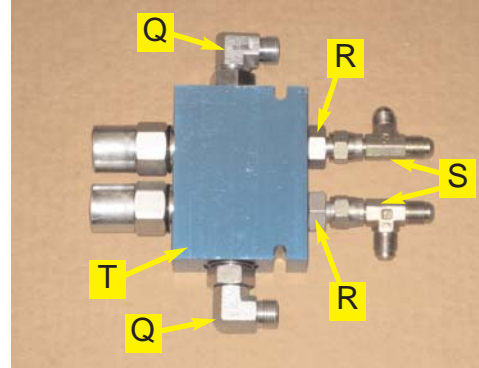

Figure 6. Assembled counter-balance valve.
- a. Install the elbow fitting (Q) into the V1 and V2 ports and the straight adapter fitting (R) into the C1 and C2 ports of the counter-balance valve block (T). (Figure 6.)
- b. Install the run-tees fitting (S) to the straight adapters (R). (Figure 6.)